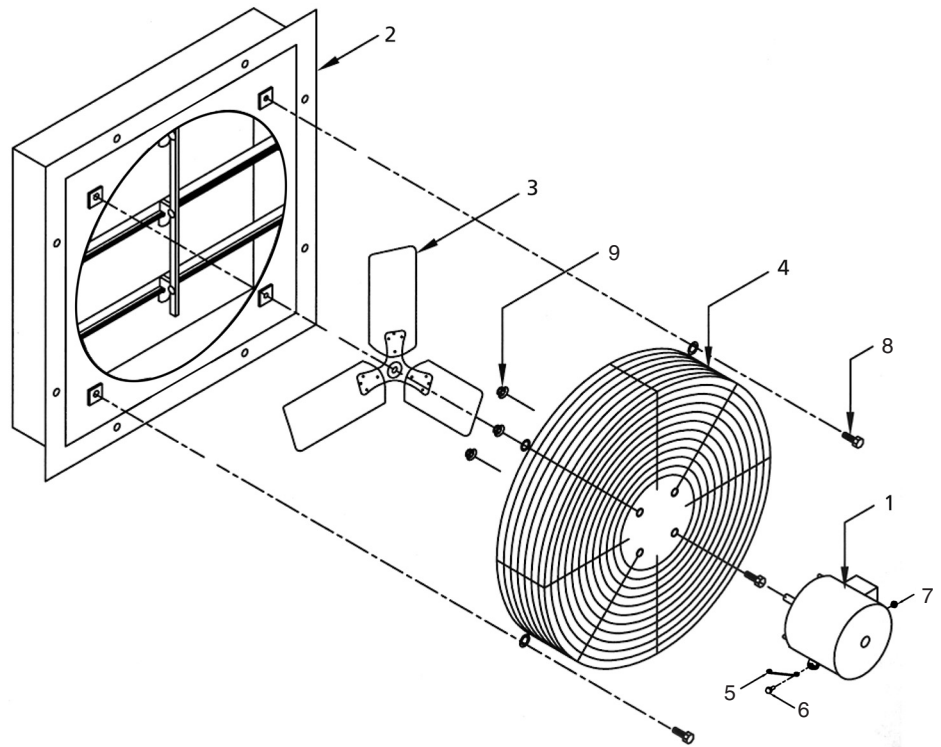

Figure 3 — Repair Parts Illustration
1. Refer to illustration of parts placement (Figure 3).
⚠ CAUTION Do not repair damaged propeller. Replace with a properly balanced unit (see Figure 3 Reference No. 3).